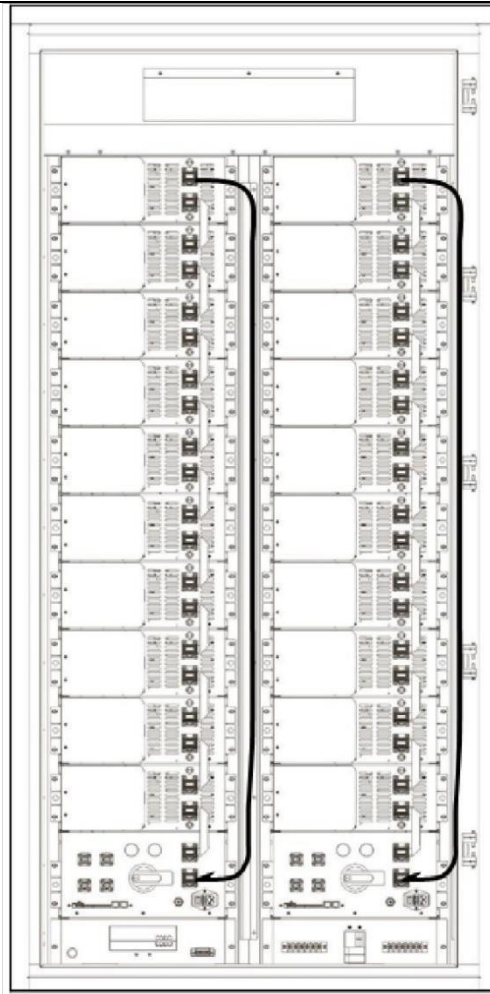

Fig. 3-5 Connecting the power cable "B".
Step 4: Install another battery module cluster. Repeat steps 1~3 to complete the connection and fixing of the power cables and soft copper bars of another battery module cluster in the battery cabinet, as shown in Fig. 3-5.